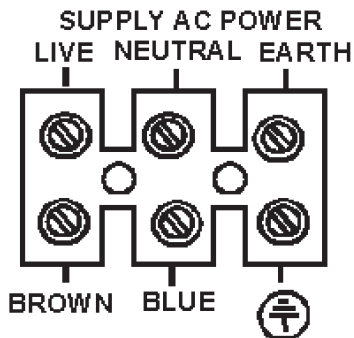

Fig 3
2. Connect the earth wire to the connector opposite the green/yellow cable. (See Fig.3).